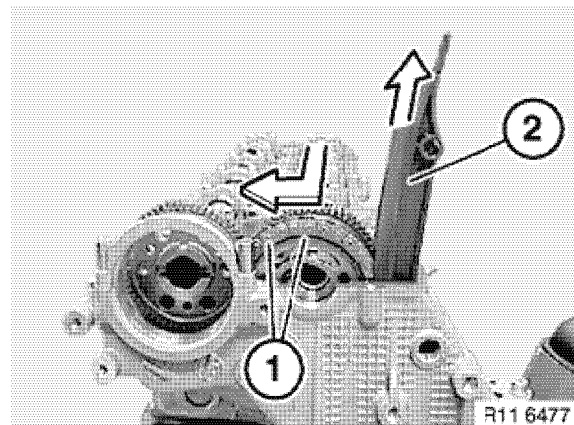

Figure 5-98
- Remove sprocket and chain from intake camshaft (1, **Figure 5-98**).
- Release guide rails (2, **Figure 5-98**) from mount and remove.